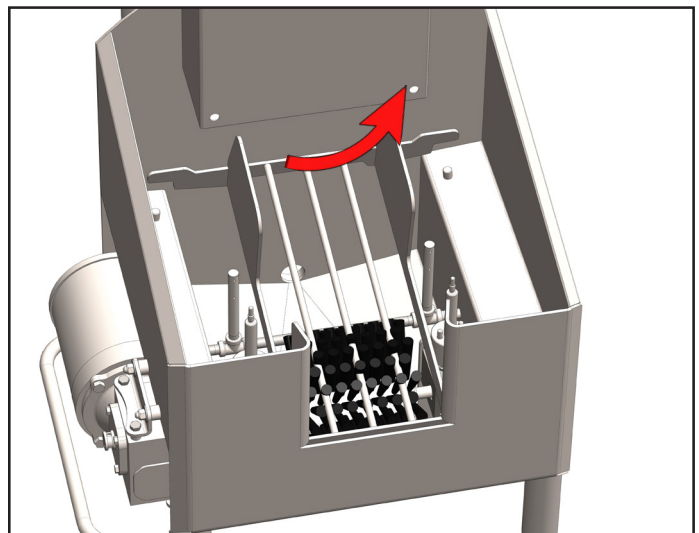

Fig. 8.2: Removing grate
5. Lift the sole brush out of the tub by grabbing the open end and lifting up to clear the opposing drive shaft anchor [Figure 8.2].